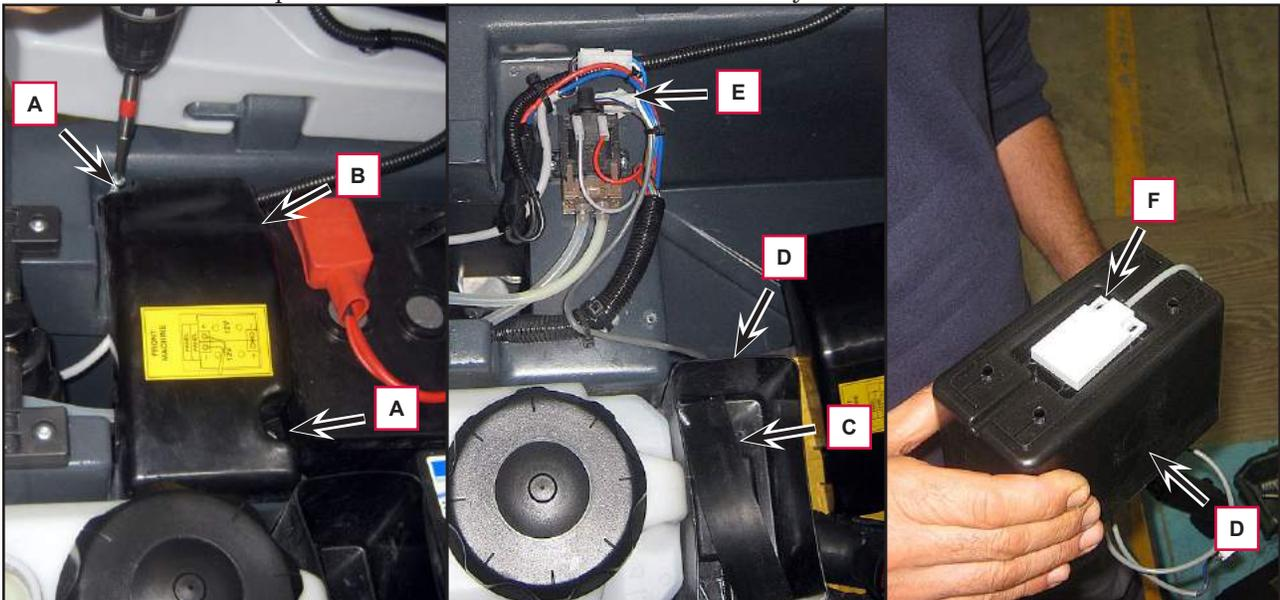

Figure 13
4. Unscrew the two screws (A) (Figure 13) and remove the cover (B).
5. Unscrew the two screws (C) and lift the tank (D).
6. Disconnect the connector (E).
7. Disassemble and remove the water level sensor (F).